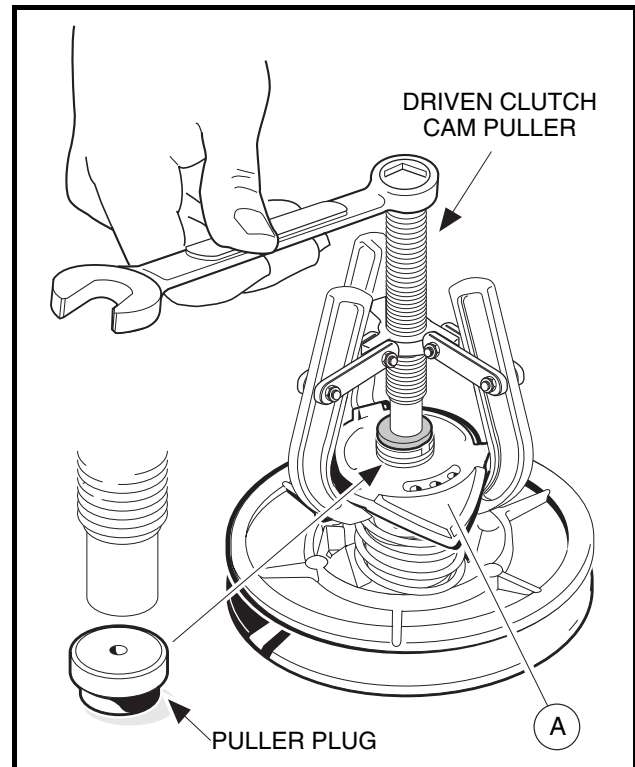
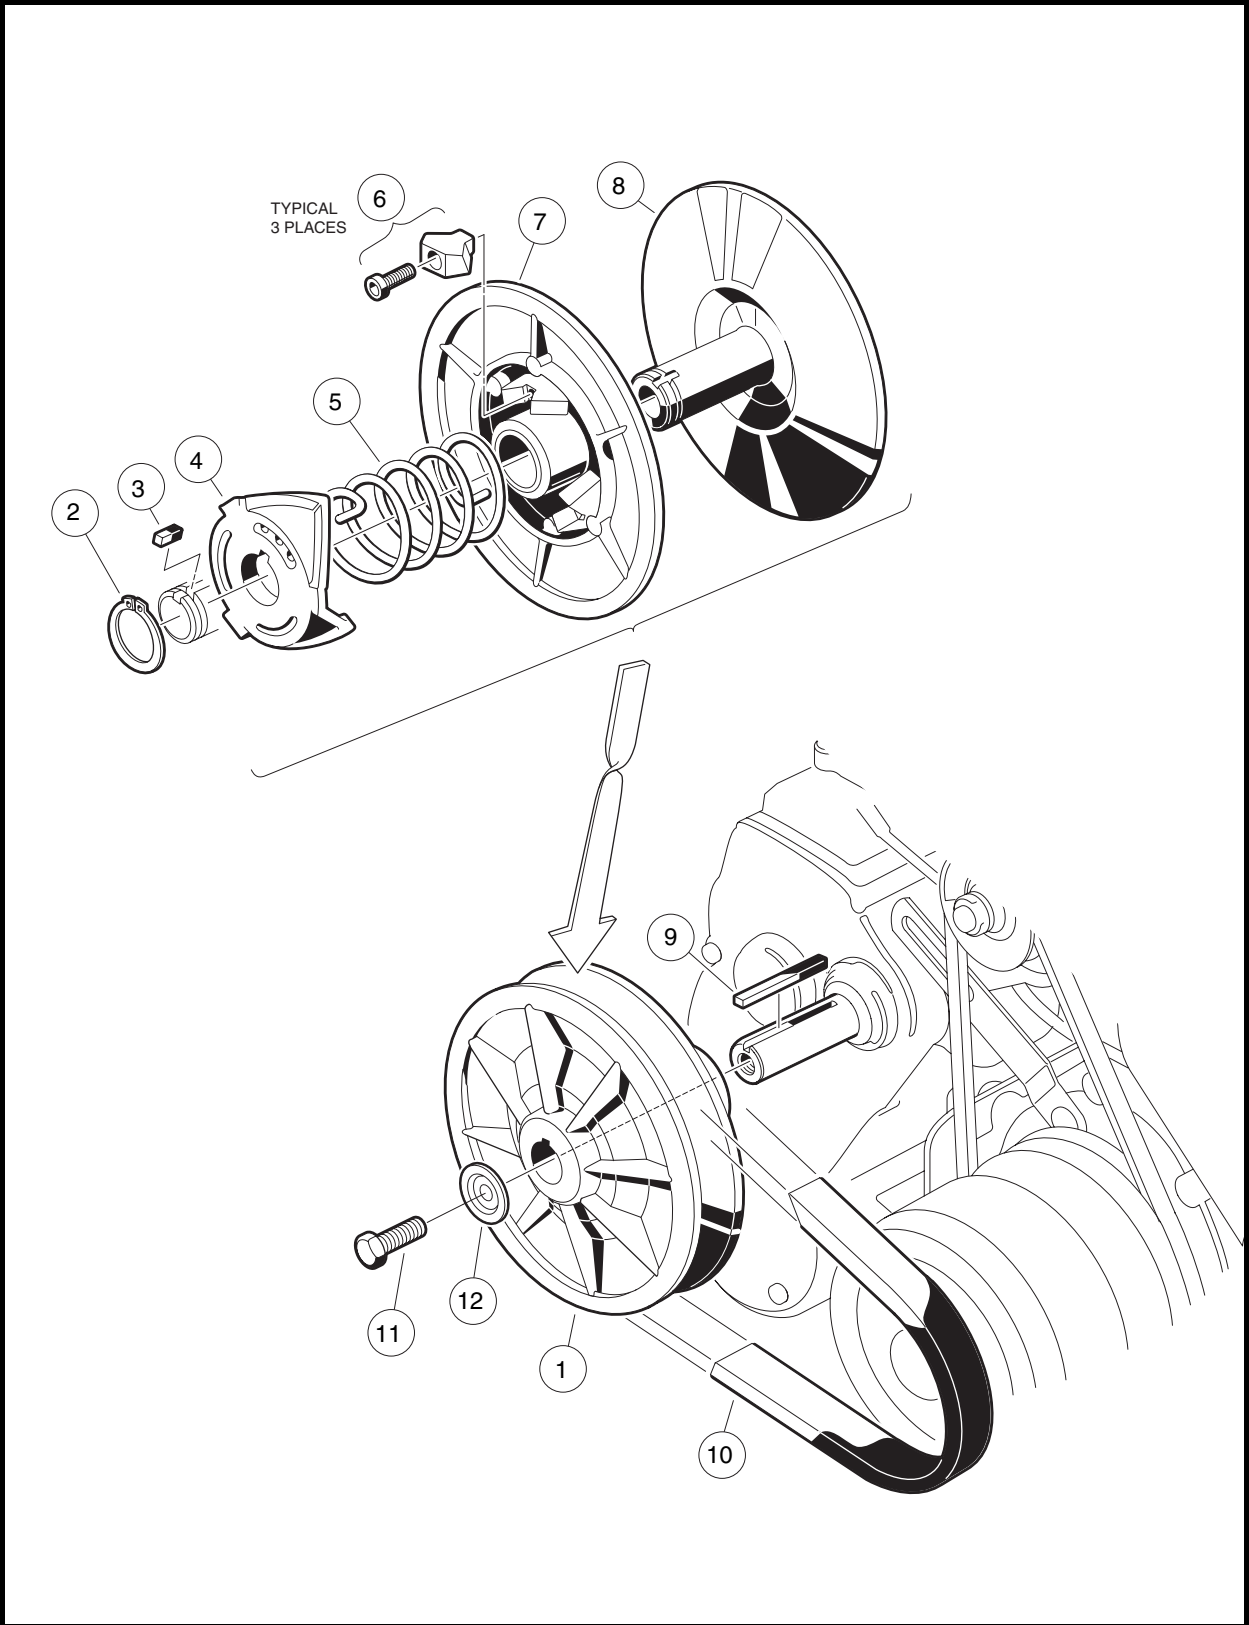

Figure 17-21 Driven Clutch Disassembly
Figure 17-22 Driven Clutch Assembly
3. Remove the bolt (11) and mounting washer (12) from the clutch shaft (**Figure 17-22, Page 17-15**).
5. Leave the key (9) in the keyway.
2. Insert a puller plug (CCI P/N 1014507) (Figure 17-21, Page 17-14) into the shaft bore and use a driven clutch cam puller (CCI P/N 1014508) to remove the cam (4) from the fixed face shaft (8) (Figure 17-22, Page 17-15).
3. Remove the spring (5) (Figure 17-22, Page 17-15).
4. Retain the key (3).
5. Slide the moveable face (7) off the fixed face shaft (8).
1. Inspect the cam (4) for excessive wear. Replace it if necessary (**Figure 17-22, Page 17-15**).
2. Inspect the drive buttons (6) for excessive wear. Replace if necessary. To remove the drive buttons, remove the socket-head cap screws and then the buttons.
1. Place the three drive buttons (6) in position. Apply one drop of Loctite® 222 to each of the socket-head cap screws and then install and tighten them to 8 in-lb (0.9 N·m) (**Figure 17-22, Page 17-15**).
2. Slide the moveable face assembly (7) onto the fixed face shaft (8).
3. Place the end of the spring (5) into the hole in the moveable face assembly.
4. Install the key (3) into the keyway of the fixed face assembly (8) shaft.
5. Holding the cam (4) in position for assembly on the shaft, install the other end of the spring (5) into the center spring hole of the cam. Rotate the cam until the keyway is aligned with the key (3) on the fixed face assembly, and then start the cam onto the shaft approximately 1/4 to 3/8 inch (6.3 to 9.5 mm).
- 5.1.3. Install the retaining ring (2) (**Figure 17-22, Page 17-15**). **See following NOTE.**
1. To install the driven clutch, reverse the removal procedure. Make sure that the washer (12) is mounted with the flat portion of the washer against the driven clutch (**Figure 17-22, Page 17-15**). Secure with a new bolt (11). **See following NOTE.**